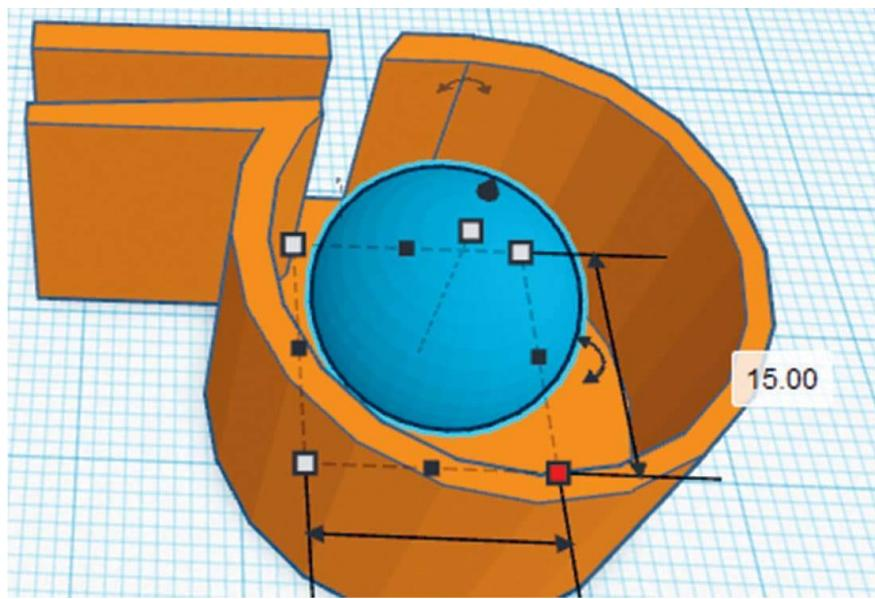

FIG. 7: The whistle pea is a sphere inside the whistle.
6. Design the whistle pea by creating a **Sphere** 15 mm in diameter and locate it 1.9 mm above the workplane. It should be inside the whistle as shown in fig. 7.